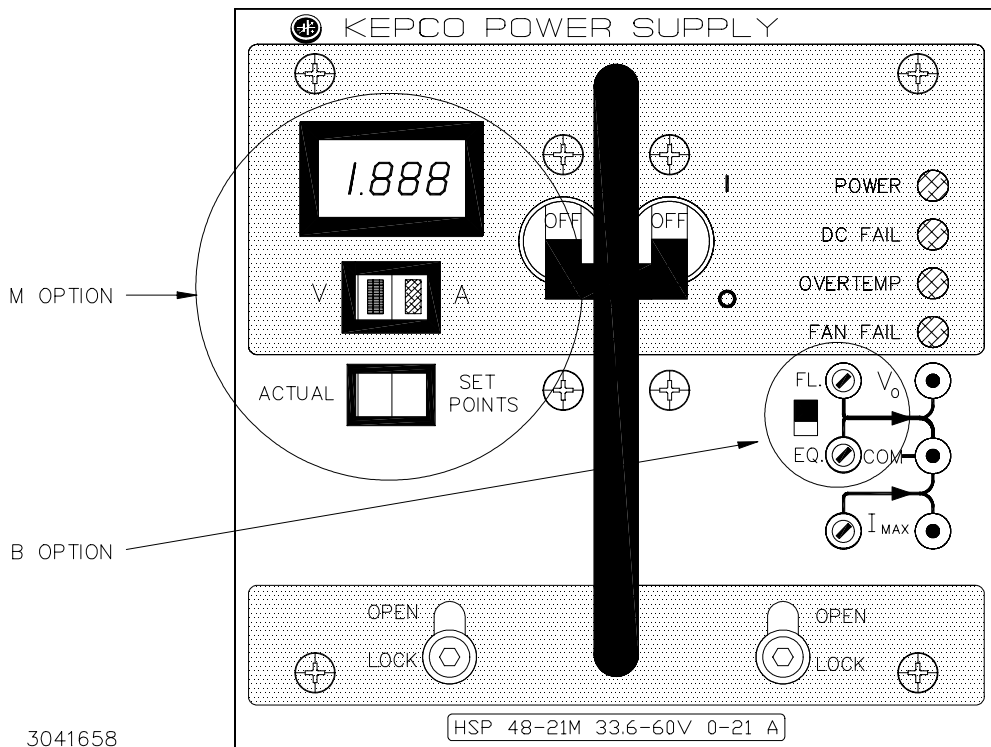

FIGURE 3-7. HSP M (METER) OPTION AND B (BATTERY CHARGER) OPTION, FRONT PANEL
HSP series power supplies are available with a meter option ('M' suffix) which incorporates a 3½ digit LED meter display on the front panel. The meter provides both voltmeter and ammeter functions. The illuminated V-A rocker switch directly below the meter (Figure 3-7) selects either output voltage (V) or module current (A) as the normally-displayed parameter. When depressed, the ACTUAL/SETPOINTS momentary-contact switch located below the V-A selector switch causes the meter to display the programmed value of output voltage or current limit, as selected
When the Float-Equalize switch is set to FL (see Figure 3-7), the Float potentiometer adjusts the output voltage; when set to EQ, the Equalize potentiometer adjusts the output voltage. The FL-EQ position also determines which voltage is available at test point Vo. CAUTION: Adjusting the non-selected potentiometer (e.g., FL potentiometer with switch set to EQ) can have adverse effects, because an unknown output voltage will be applied to the load when the switch position is changed. The fault detector window is altered to accommodate the normal range of battery voltage from fully discharged to peak equalize charge as shown in Table 3-3.: